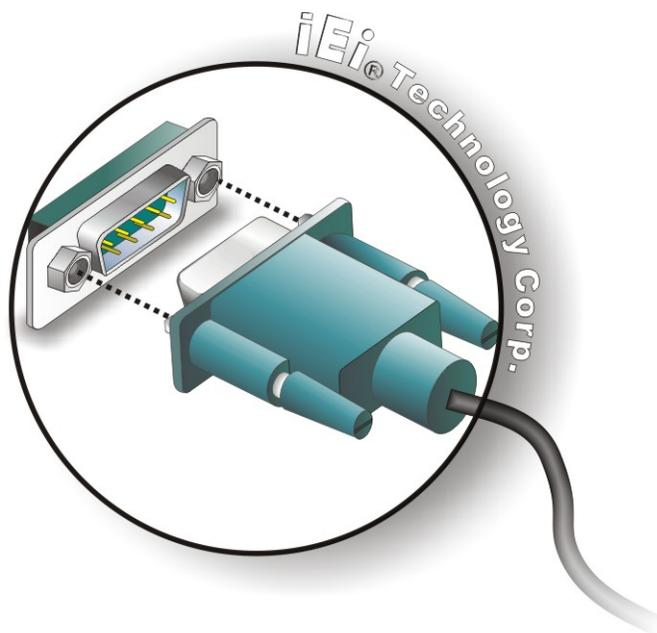

Figure 4-13: Serial Device Connector
Step 2: Insert the serial connector. Insert the DB-9 connector of a serial device into the DB-9 connector on the external peripheral interface. See Figure 4-13.